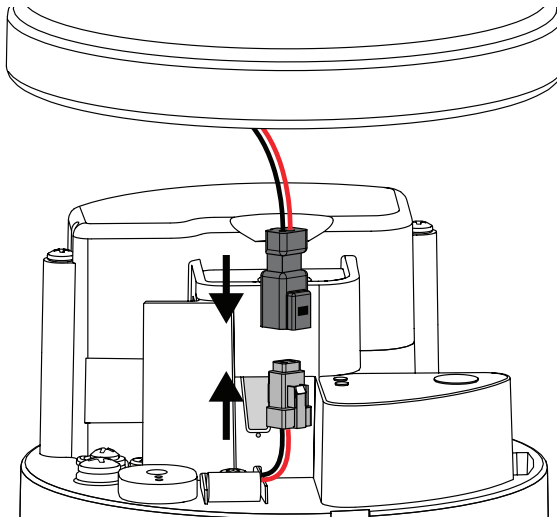

Figure 15 Connect pyranometer cable
1. Reattach the pyranometer connector by mating the two halves of the white connector and seating them firmly together until the tabs lock (Figure 15).